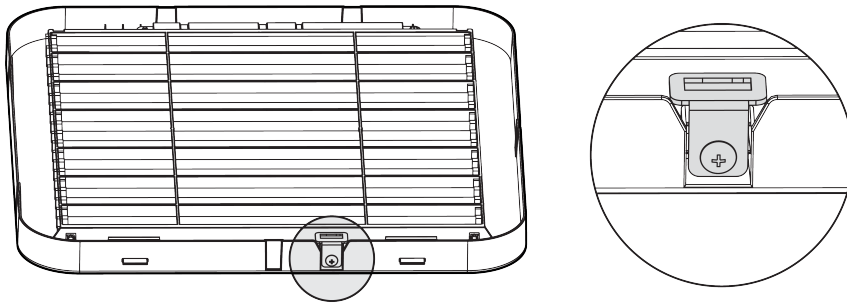

Fig.4.5.9
- (8) Tighten the “J” -shape metal sheet in the accessories on the grille with screws, please refer to Fig.4.5.9.